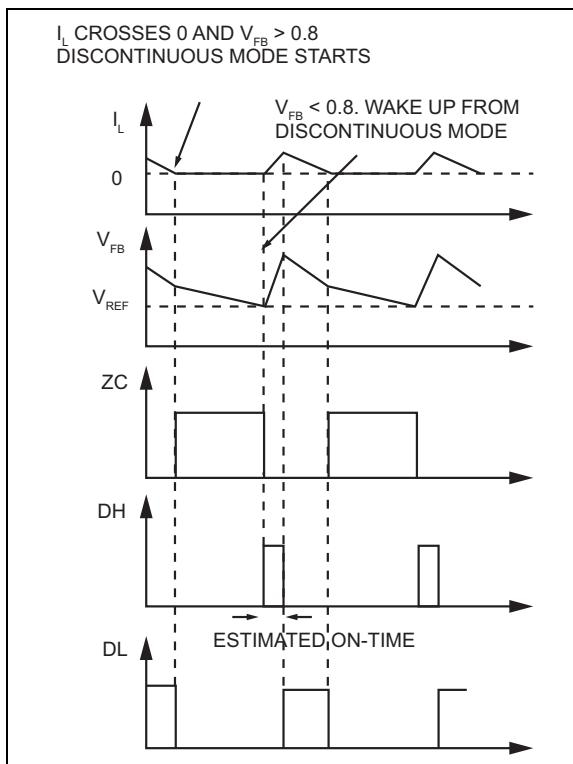

FIGURE 4-4: MIC45116-1 Control Loop (Discontinuous Mode).
In continuous mode, the inductor current is always greater than zero; however, at light loads, the MIC45116-1 is able to force the inductor current to operate in discontinuous mode. Discontinuous mode is where the inductor current falls to zero, as indicated by trace (IL) shown in Figure 4-4. During this period, the efficiency is optimized by shutting down all the non-essential circuits and minimizing the supply current as the switching frequency is reduced. The MIC45116-1 wakes up and turns on the high-side MOSFET when the feedback voltage V_{FB} drops below 0.8V.
Once the MIC45116-1 goes into discontinuous mode, both low driver (DL) and high driver (DH) are low, which turns off the high-side and low-side MOSFETs. The load current is supplied by the output capacitors and V_{OUT} drops. If the drop of V_{OUT} causes V_{FB} to go below V_{REF} , then all the circuits will wake up into normal continuous mode. First, the bias currents of most circuits reduced during the discontinuous mode are restored, and then a t_{ON} pulse is triggered before the drivers are turned on to avoid any possible glitches. Finally, the high-side driver is turned on. Figure 4-4 shows the control loop timing in discontinuous mode.